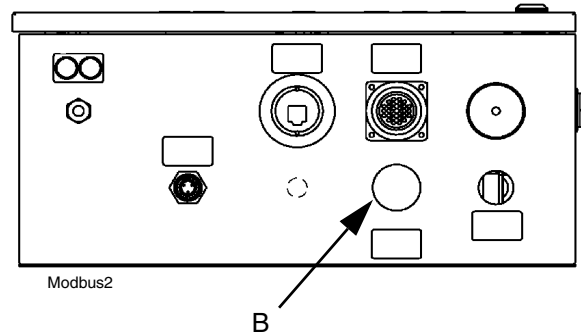

FIG. 10 EasyKey Modbus/TCP Connection
3. Knock out the prepared hole (B) from the bottom of the EasyKey enclosure. See FIG. 10.